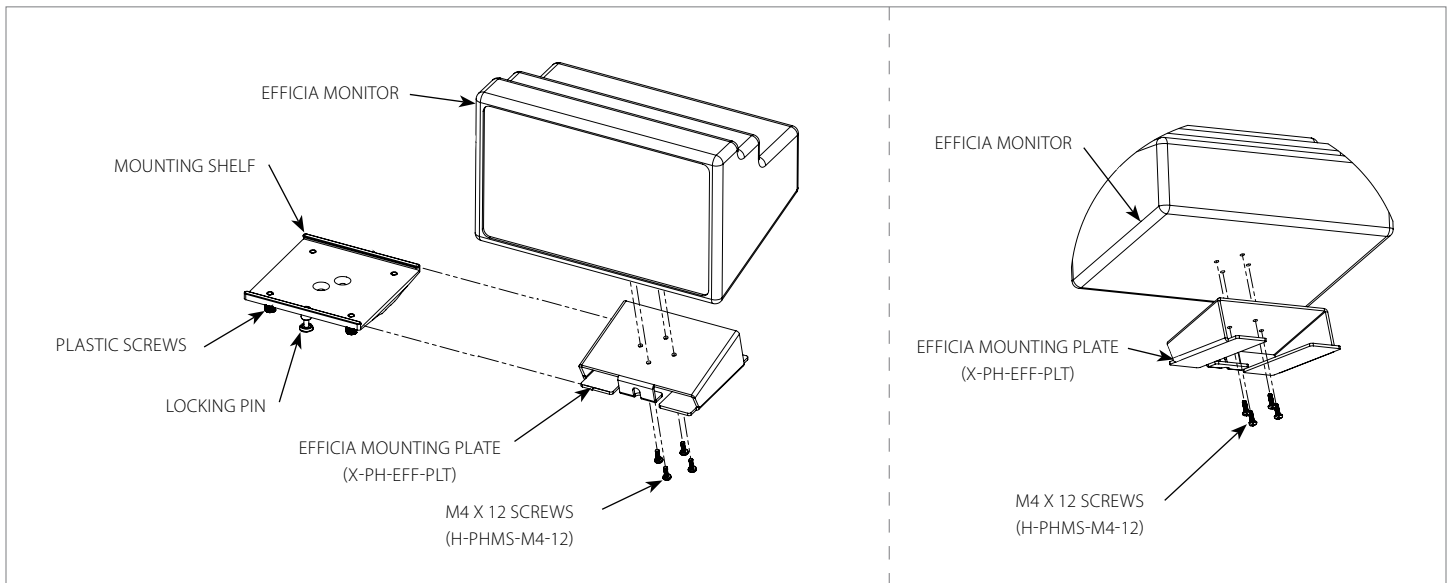

Figure 1
1. First, install the **EFFICIA MOUNTING PLATE** to the **EFFICIA MONITOR** with 4x **M4 SCREWS** (Figure 1).